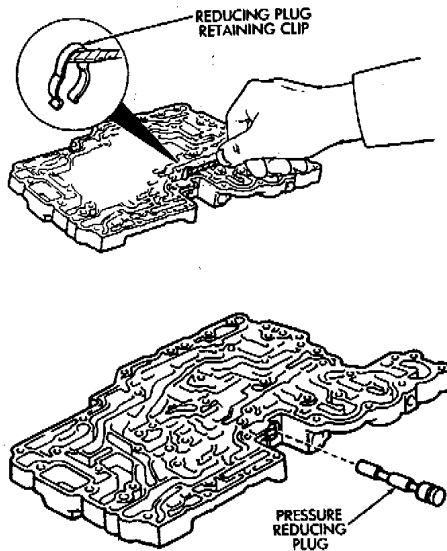

Fig. 9 Removing/Installing Pressure Reducing Plug
- (4) Install pressure reducing plug in plug bore. Then secure plug with retaining clip (Fig. 9).